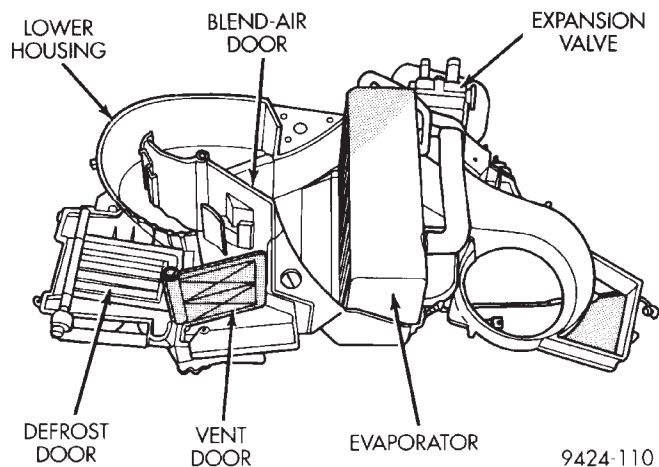

**Fig. 72 Lower Housing**
- (18) Separate upper housing from lower housing (Fig. 72).